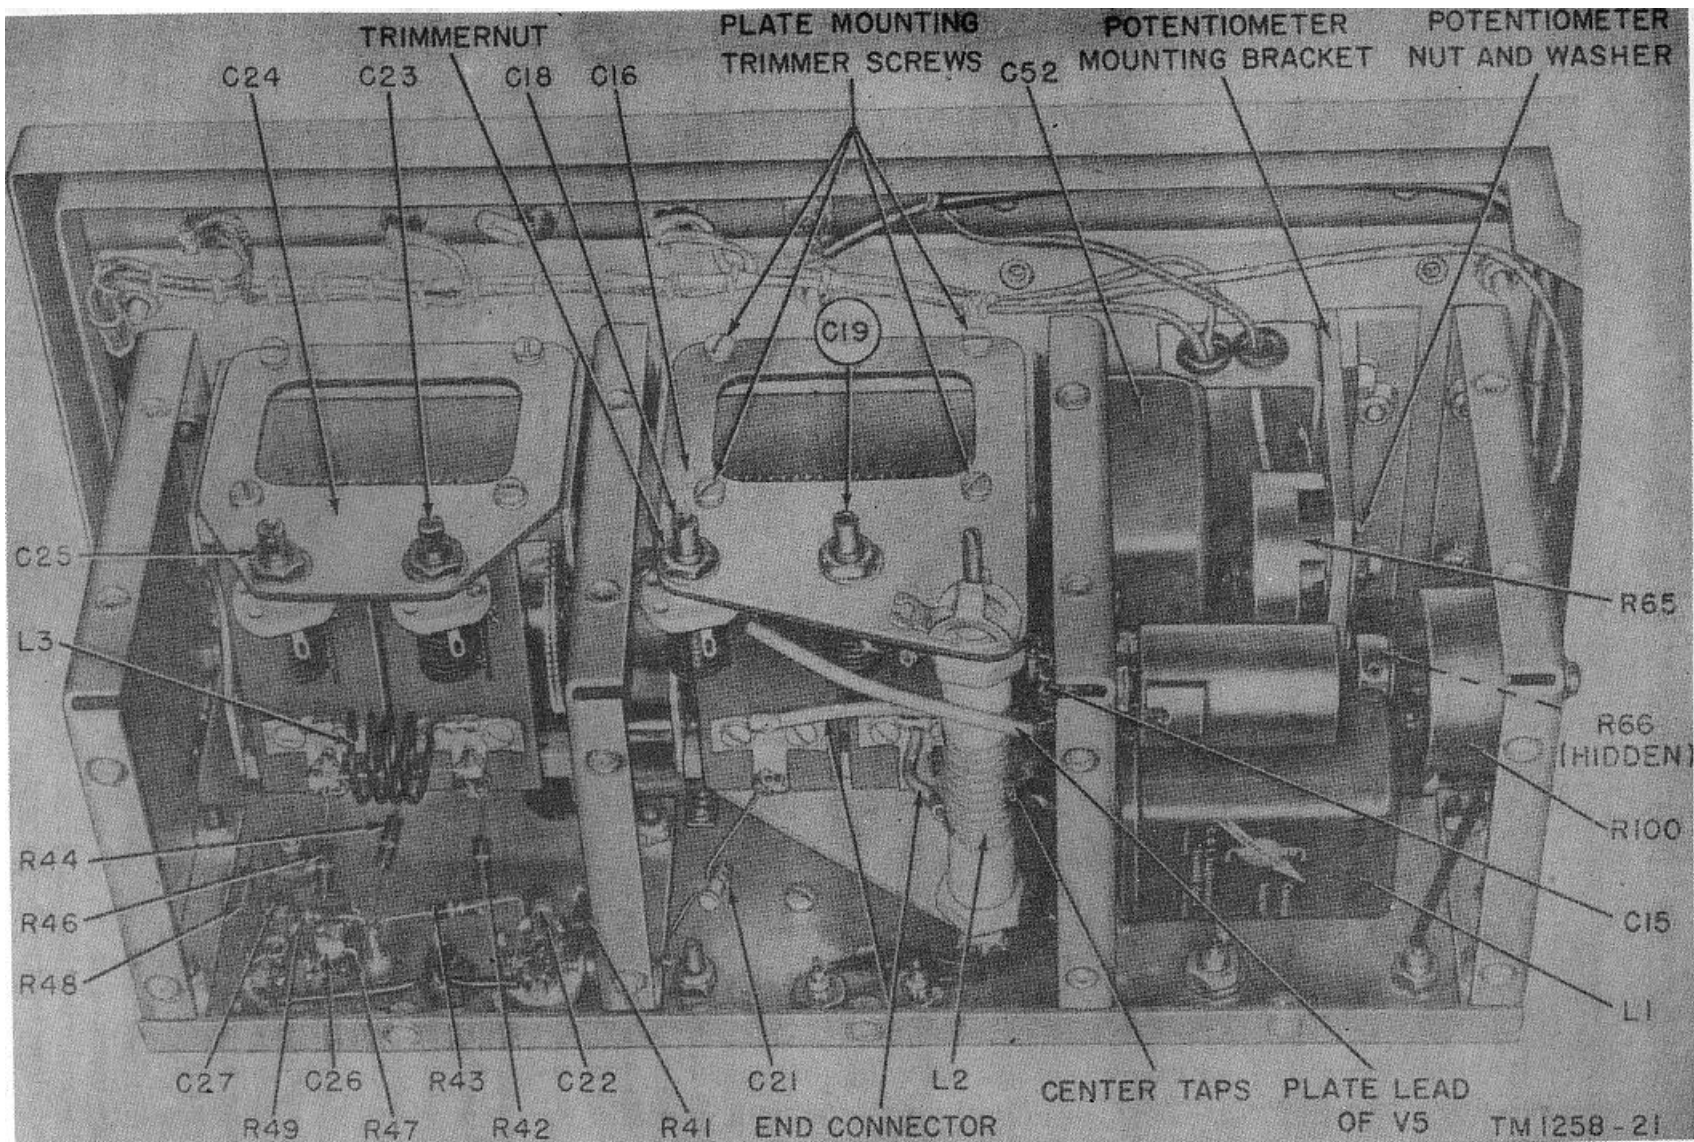

Figure 22. Rf assembly, top view.
- (2) Unsolder the leads leading to C21, C15, the plate lead of V5, and the three center tap leads of L2 (fig. 22).
a. To remove tuning capacitor assembly C16 (fig. 22) from the rf assembly, proceed is follows:
- (1) Remove the rf assembly by following the instructions given in paragraph 61.
b. To replace tuning capacitor assembly C16 (fig. 22), proceed as follows:
- (1) Position the assembly and secure it to the mounting plate by replacing the four screws previously removed.
- (2) Solder the leads leading to C21, C15, the plate lead of V5, and the three center tap leads of L2 (fig. 22).
- (3) Replace the rf assembly as described in paragraph 61.
a. To remove tuning capacitor assembly C24 (fig. 22) from the rf assembly, proceed as follows:
- (2) Unsolder the leads connecting R42, R44, and R46 (fig. 22) to the capacitor assembly.
**Coil L3 and capacitors C25 and C23 (figs. 21 and 22) and the split gears (fig. 22) are all components of the tuning capacitor assembly C24.**
b. To replace tuning capacitor assembly C24 (fig. 22), proceed as follows:
- (1) Position the assembly and secure it to the mounting plate with four screws.
- (2) Solder the three leads attached to R42, R44, and R46 (fig. 22).
- (3) Replace the rf assembly as described in paragraph 61b.
- (1) Remove tuning capacitor C24 (fig. 22) as outlined in paragraph 63a.
- (1) Remove the rf assembly as described in paragraph 61.
- (2) Remove the two screws which secure the potentiometer mounting bracket to the oscillator subplate (fig. 22).
- (3) Unsolder the leads and remove the potentiometer mounting bracket (fig. 22).
- (4) Back off one nut and remove it and the washer that secure the potentiometer to the mounting bracket.
- (5) Remove the potentiometer.